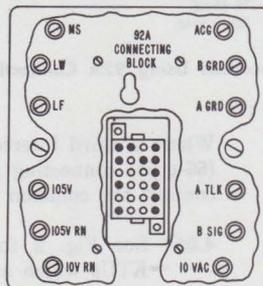

Fig. 6—19-, 20-, 29-, or 30-Type Power Unit Connection Using 92A Connecting Block
3.05 Where power cannot be supplied by a 79B1 or 79B2 power unit, power can be supplied from a separate 19-, 20-, 29-, or 30-type power unit. A 92A connecting block (Fig. 6) provides a means for connecting the power cable of the 626A panel to the power unit. An interrupter must be provided with the separate power unit to furnish the interrupted voltages to the panel. All straps between the power unit and the 92A connecting block are made with 18-gauge (solid) wire.